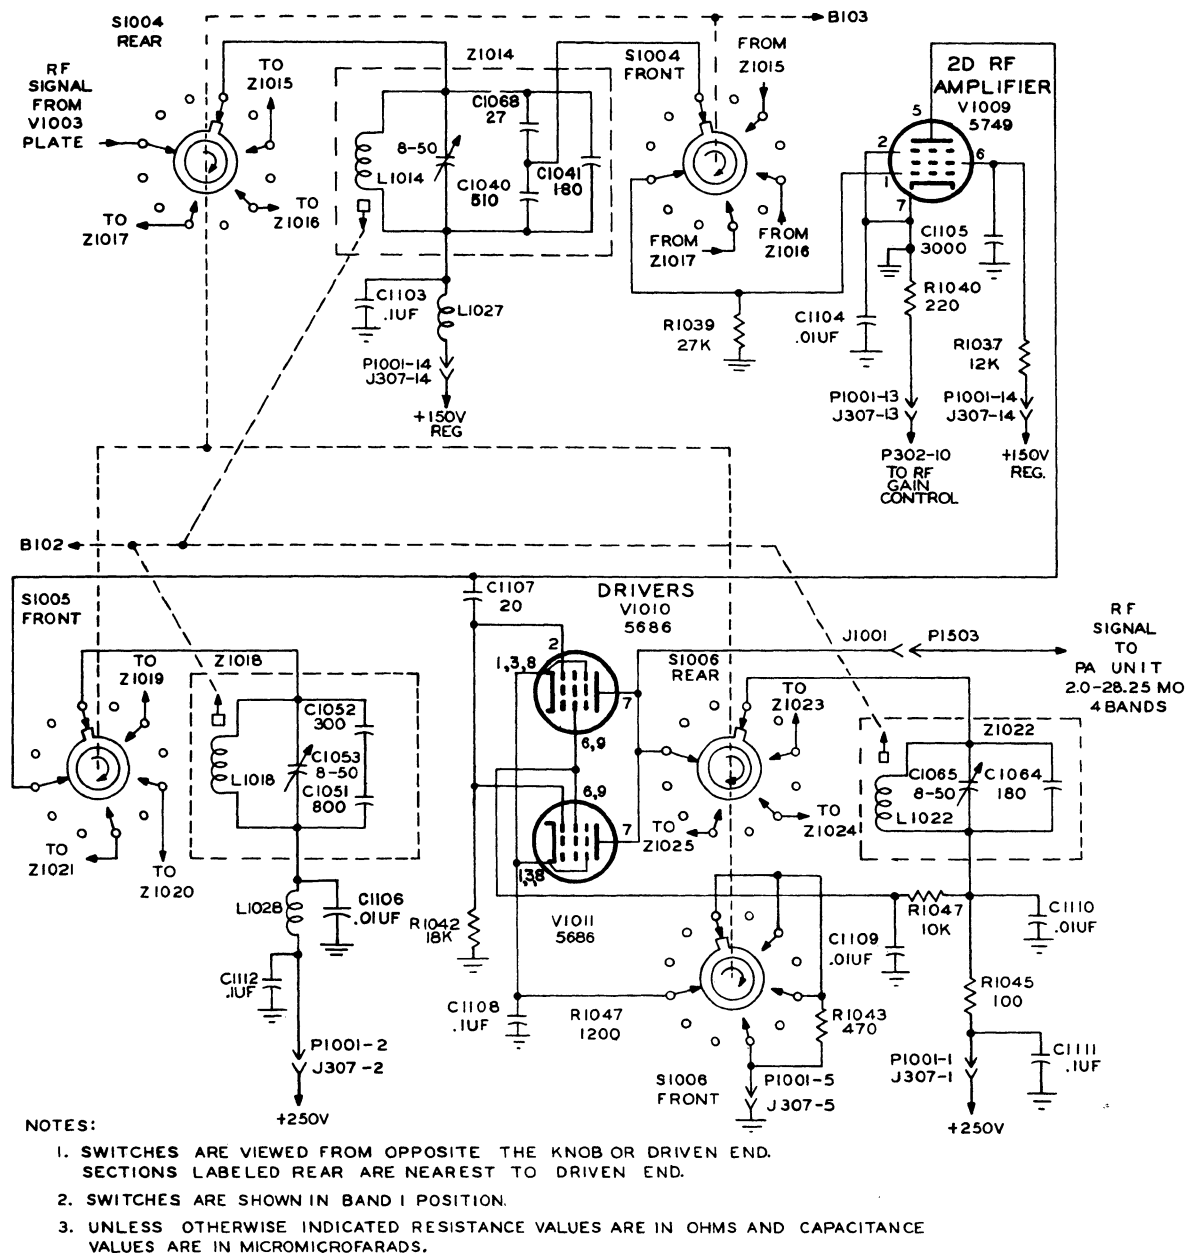

Figure 4-14. Transmit Position 2nd R-F Amplifiers and Drivers, Simplified Schematic Diagram
4.9.3.1.3 SECOND R-F AMPLIFIER AND DRIVERS. Refer to figure 4-14. The plate circuit of the second